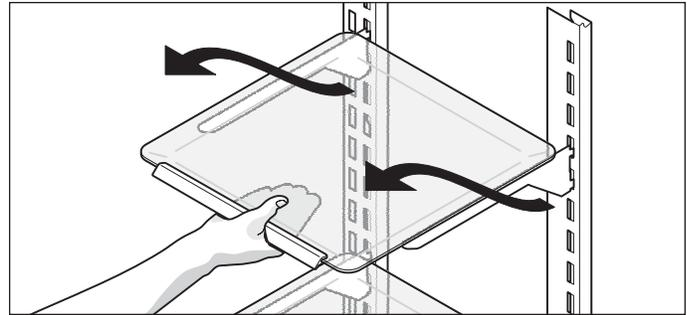

Figure 6-29.
2. Lift the front edge up and pull the shelf out. (See Figure 6-29)